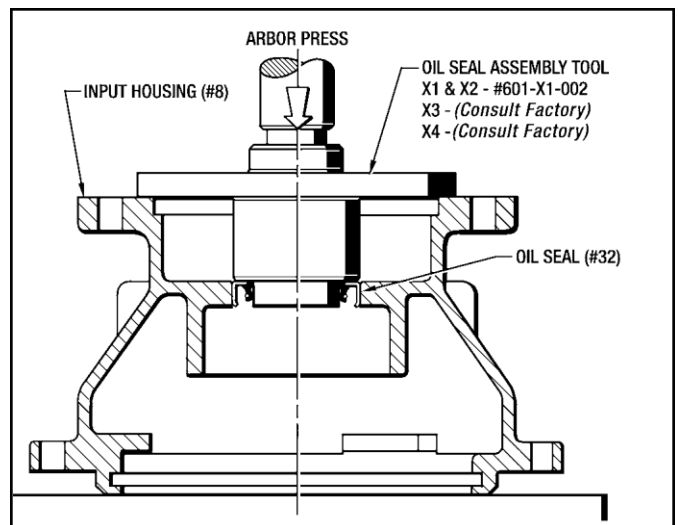

Figure 9.4 - Installing Oil Seal (#32)
2. Install the Oil Seal (#32) into the Input Housing (#8) with an Arbor Press and the appropriate Assembly Tool as shown in Figure 9.4. **IMPORTANT-This Oil Seal must be installed squarely to prevent oil leaks.**